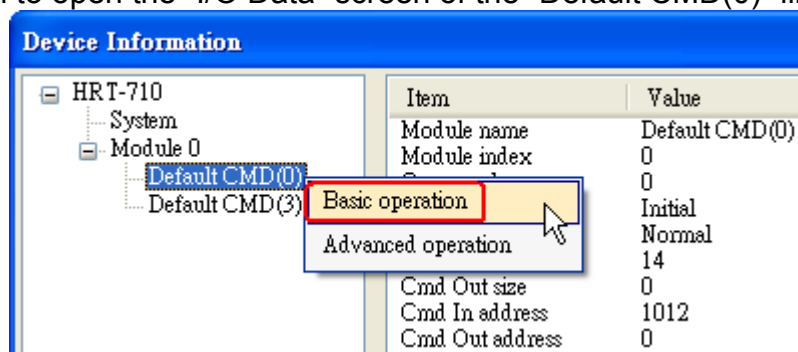

Figure 2-2 The “Basic operation” of the “Default CMD(0)”
(2) Right click the button of mouse on the “Default CMD(0)” item and choose the “Basic operation” option to open the “I/O Data” screen of the “Default CMD(0)” like Figure 2-2.